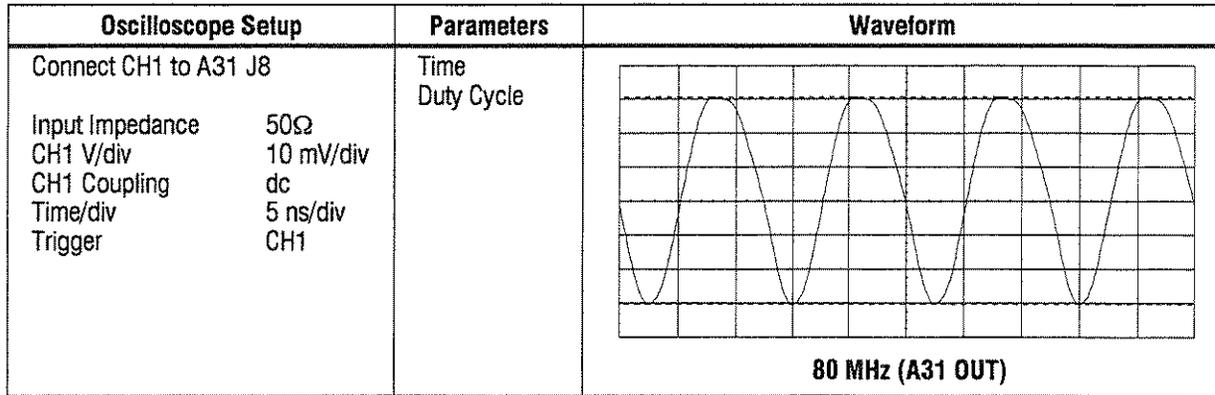

Figure 5-5. 80 MHz Reference Signal
- Set the power switch to ON (1). Check the signals in figure 5-5 again. If the signals are now correct, the ADC/Digital Filter assembly's EXT_CLK signal is probably faulty. If the signals are still incorrect, the CPU assembly is probably faulty.